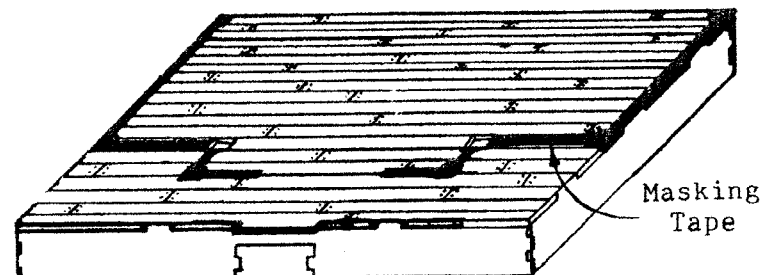

Figure 13
9. Remove the outer edges of the tape, leaving the portion of tape where the walls had set. Figure 13.